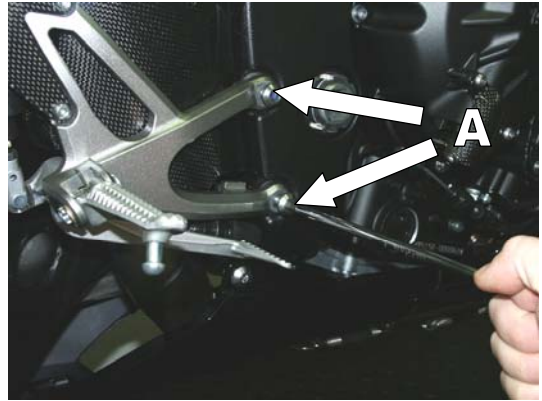

Figure 10
8. Tighten the **bolts A** from the rider's foot-rest bracket. Tightening torque for **bolts A**: 22 ftlb (30 Nm) (**Figure 10**).